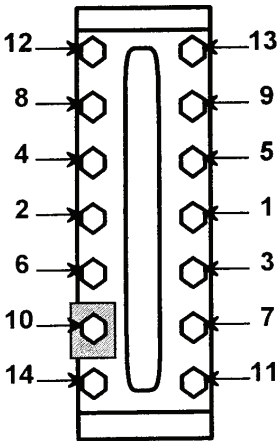

FIGURE 1
Using a torque wrench, tighten nuts in 5 ft-lb (7 N-m) increments following the 'Z' pattern sequence in Figure 1, until the torque values shown in Table 3 above for the specific liquid level gage are reached. For multiple section gages, torque the center section(s) and progressively work toward the ends of the gage.
Depending on gage size there may be less bolting than shown in Figure 1. Start at the center and follow 'Z' pattern outward to the limit of bolting on a specific gage.
The following procedure is to be done on only one side of a transparent gage. Using a torque wrench, tighten nuts in 5 ft-lb (7 N-m) increments following the 'Z' pattern sequence found in Figure 1 until the torque values shown in Table 3 are reached.
10. For reflex gage, turn over assembly onto backside of U-bolts quickly. Assemble nameplate, washer and nuts to U-bolts. Tighten nuts with fingers. Using a torque wrench, tighten nuts in 5 ft-lb (7 N-m) increments, following the sequence in Figure 1 until the torque values shown in Table 3 are reached.
15. Install nameplate, washer and nuts to bolts. Tighten nuts with fingers. Using a torque wrench, tighten nuts in 5 ft-lb (7 N-m) increments, following the sequence in Figure 1 until the torque values shown in Table 3 are reached.
16. Using a torque wrench, tighten nuts in 5 ft-lb (7 N-m) increments, following the sequence in Figure 1, until the torque values shown in Table 3 are reached.